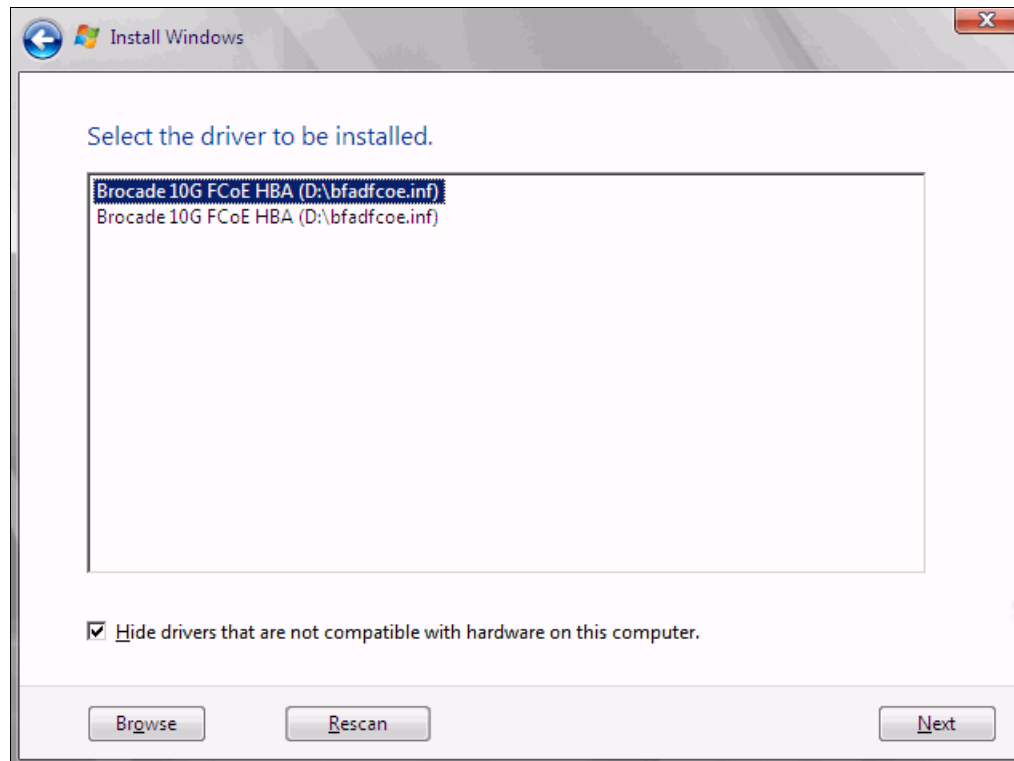

Figure 9-220 Loading the Brocade drivers
9. In the “Select the driver to be installed” panel (Figure 9-220), select the driver, and click **Next**.